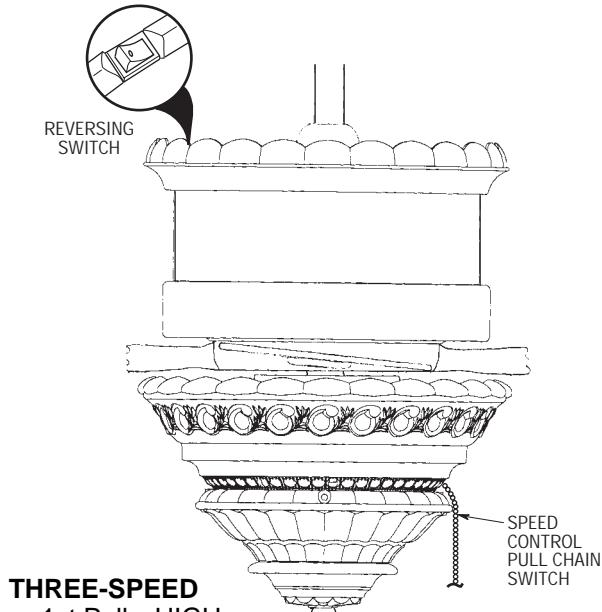

Figure 17
- 2. Check the operation of the fan by gently pulling on the 4-position speed control pull chain switch (Figure 17). The operating sequence is as follows: